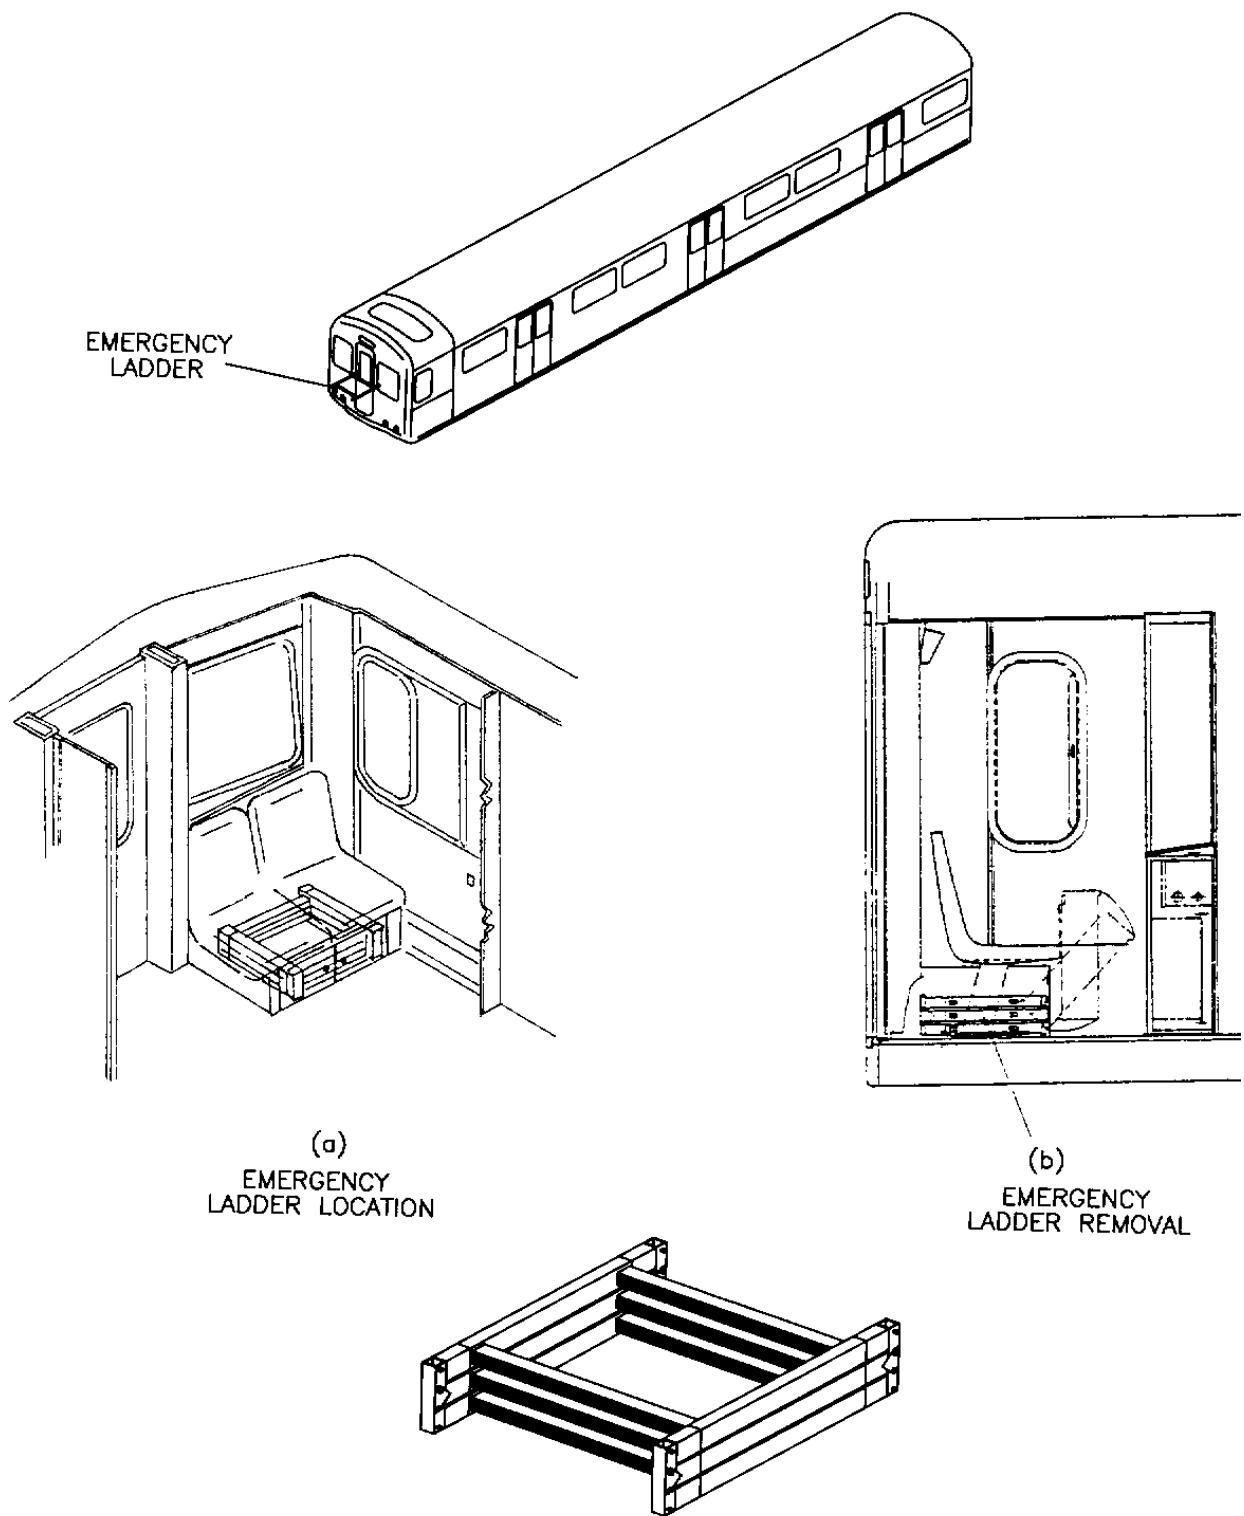

Figure 2-6. Emergency Ladder
The emergency ladder is located in the passenger area opposite the cab beneath the transverse seat. The ladder is housed in a box, with a hinged door (see Figure 2-6) and is secured to the floor by one retaining pin.
- c. Remove the ladder from the box as shown in Fig. 2-6.